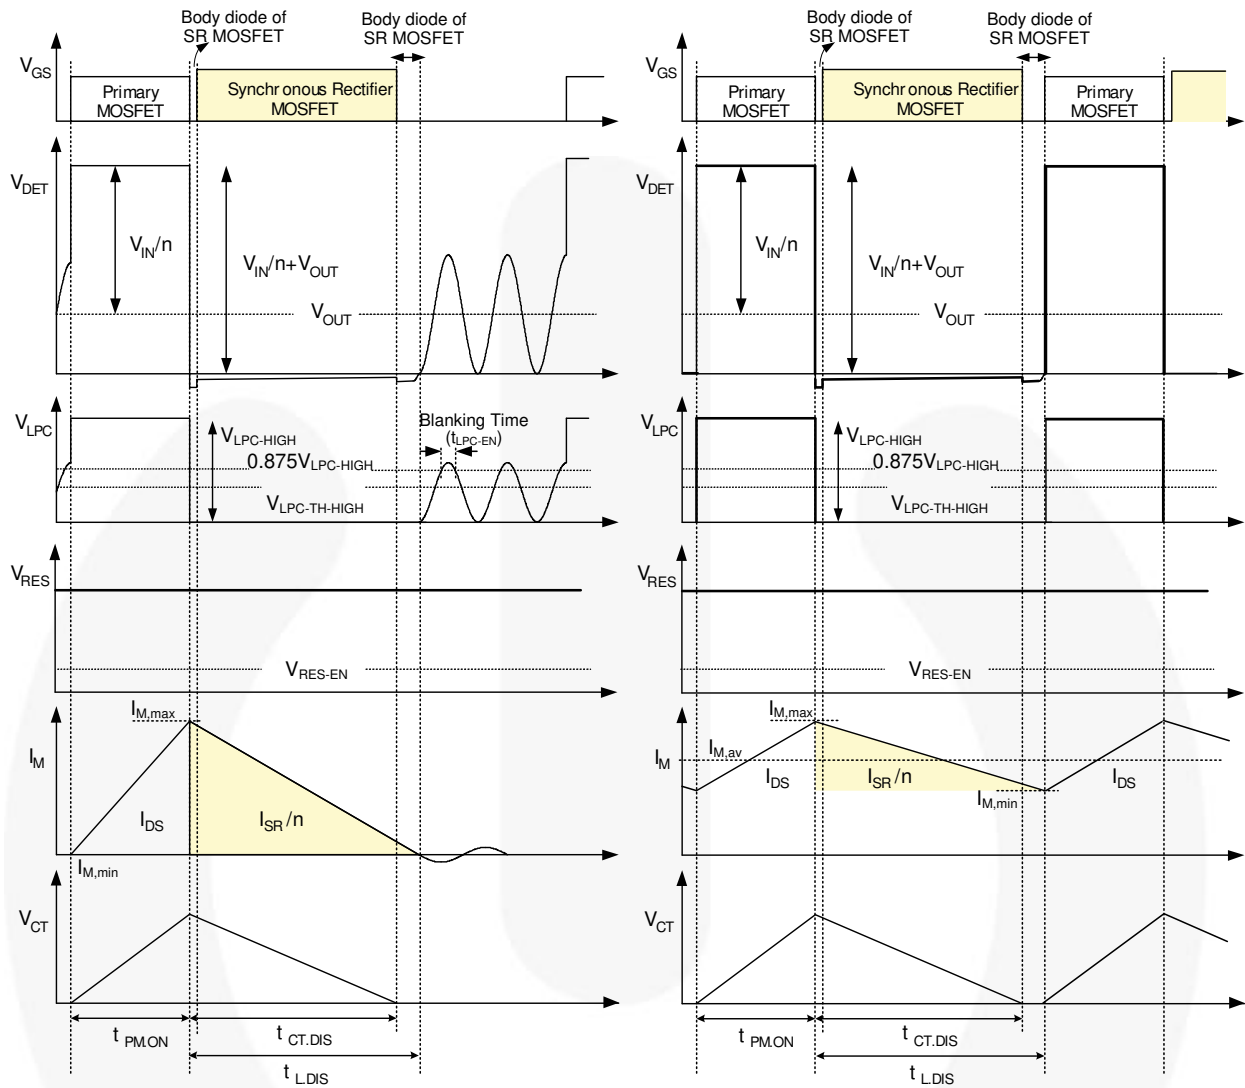
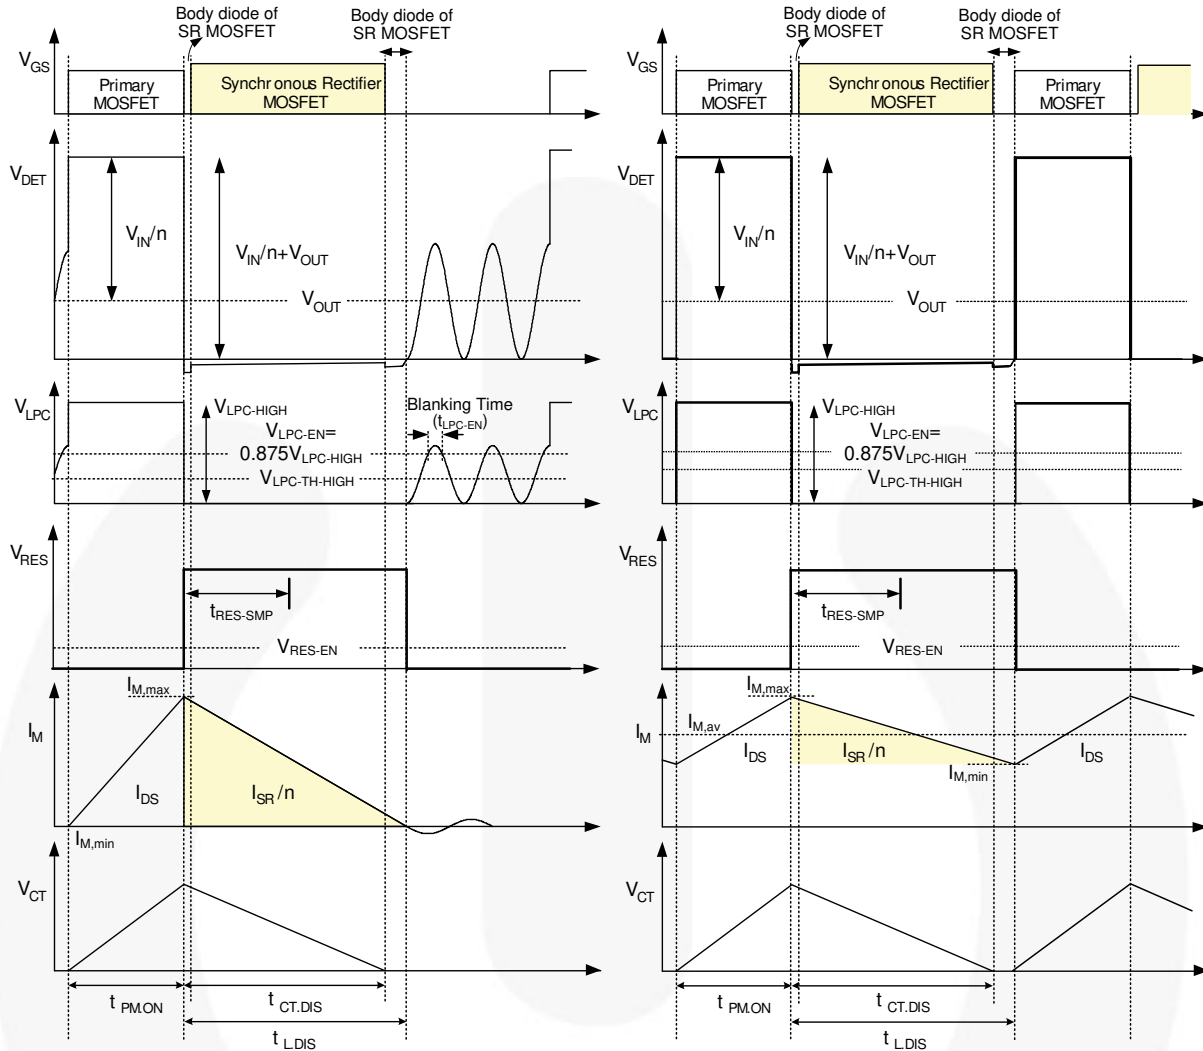
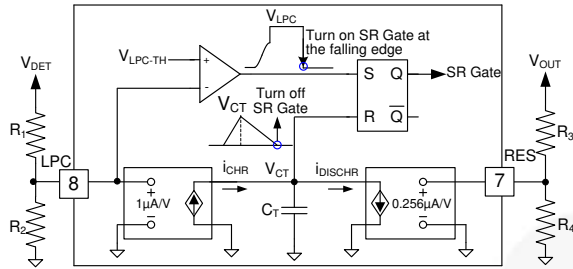

Figure 25. Waveforms of Linear-Predict Timing Control in CCM and DCM / QR Flyback for Low-Side Application
Figure 26. Waveforms of Linear-Predict Timing Control in CCM and DCM / QR Flyback for High-Side Application
Figure 27. Simplified Linear-Predict Block
The SR MOSFET turn-off timing is determined by linear-predict timing control and the operation principle is based on the volt-second balance theorem, which states: the inductor average voltage is zero during a switching period in steady state, so the charge voltage and charge time product is equal to the discharge voltage and discharge time product. In flyback converters, the charge voltage on the magnetizing inductor is input voltage (V_{IN}), while the discharge voltage is reflected output voltage (nV_{OUT}), as the typical waveforms show in Figure 25. The following equation can be drawn:
FAN6224 uses the LPC and RES pins with two sets of voltage dividers to sense DET voltage (V_{DET}) and output voltage (V_{OUT}), respectively; so V_{IN}/n , $t_{PM,ON}$, and V_{OUT} can be obtained. As a result, $t_{L,DIS}$, which is the on-time of SR MOSFET, can be predicted by Equation 1. As shown in Figure 25, the SR MOSFET is turned on when the SR MOSFET body diode starts conducting and DET voltage drops to zero. The SR MOSFET is turned off by linear-predict timing control.
The linear-predict timing-control circuit generates a replica (V_{CT}) of the magnetizing current of the flyback transformer using an internal timing capacitor (C_T), as shown in Figure 27. Using the internal capacitor voltage, the inductor discharge time ($t_{L,DIS}$) can be detected indirectly, as shown in Figure 25. When C_T is discharged to zero, the SR controller turns off the SR MOSFET.
Referring to Figure 25, when LPC voltage is higher than V_{LPC-EN} over a period of blanking time (t_{LPC-EN}) and lower than $V_{LPC-TH-HIGH}$ (1.22 V), then SR MOSFET can be triggered. Therefore, V_{LPC-EN} must be larger than $V_{LPC-TH-HIGH}$ or the SR MOSFET cannot be turned on. As a result, when designing the voltage divider of the LPC, considering the tolerance, R_1 and R_2 should satisfy the equation:
For high-side applications, as shown in Figure 2, an extra auxiliary winding (N_3) is used to supply voltage for controller. To detect output voltage, the RES pin is connected to the auxiliary winding through a set of voltage dividers. As Figure 26 shows, V_{RES} is proportional to V_{OUT} when SR MOSFET or its body diode conducts. Therefore, information of V_{OUT} is sampled at $t_{RES-SMP}$ after the primary-side MOSFET turns off. As a result, Equation (4) can be rewritten as:
The typical waveforms of CCM operation in steady state are shown as right side of Figure 25 and Figure 26. When the primary-side MOSFET is turned on, the energy is stored in L_m . During the on-time of the primary-side MOSFET ($t_{PM,ON}$), the magnetizing current (I_M) increases linearly from $I_{M,min}$ to $I_{M,max}$. Meanwhile, internal timing capacitor (C_T) is charged by current source ($i_{CHR-DICHR}$) proportional to V_{IN} , so V_{CT} also increases linearly.
In DCM / QR operation, when primary-side MOSFET is turned off, the energy stored in L_m is fully released to the output at the turn-off timing of primary-side MOSFET. Therefore, the DET voltage continues resonating until the primary-side MOSFET is turned on, as depicted in Figure 25. While DET voltage is resonating, DET voltage and LPC voltage drop to zero by resonance, which can trigger the turn-on of the SR MOSFET. To prevent fault triggering of the SR MOSFET in DCM operation, a blanking time is introduced to LPC voltage. The SR MOSFET is not turned on even when LPC voltage drops below $V_{LPC-TH-HIGH}$ unless LPC voltage stays above $0.875 V_{LPC-HIGH}$ longer than the blanking time (t_{LPC-EN}). The turn-on timing of the SR MOSFET is inhibited by gate inhibit time ($t_{INHIBIT}$), once the SR MOSFET turns off, to prevent fault triggering.